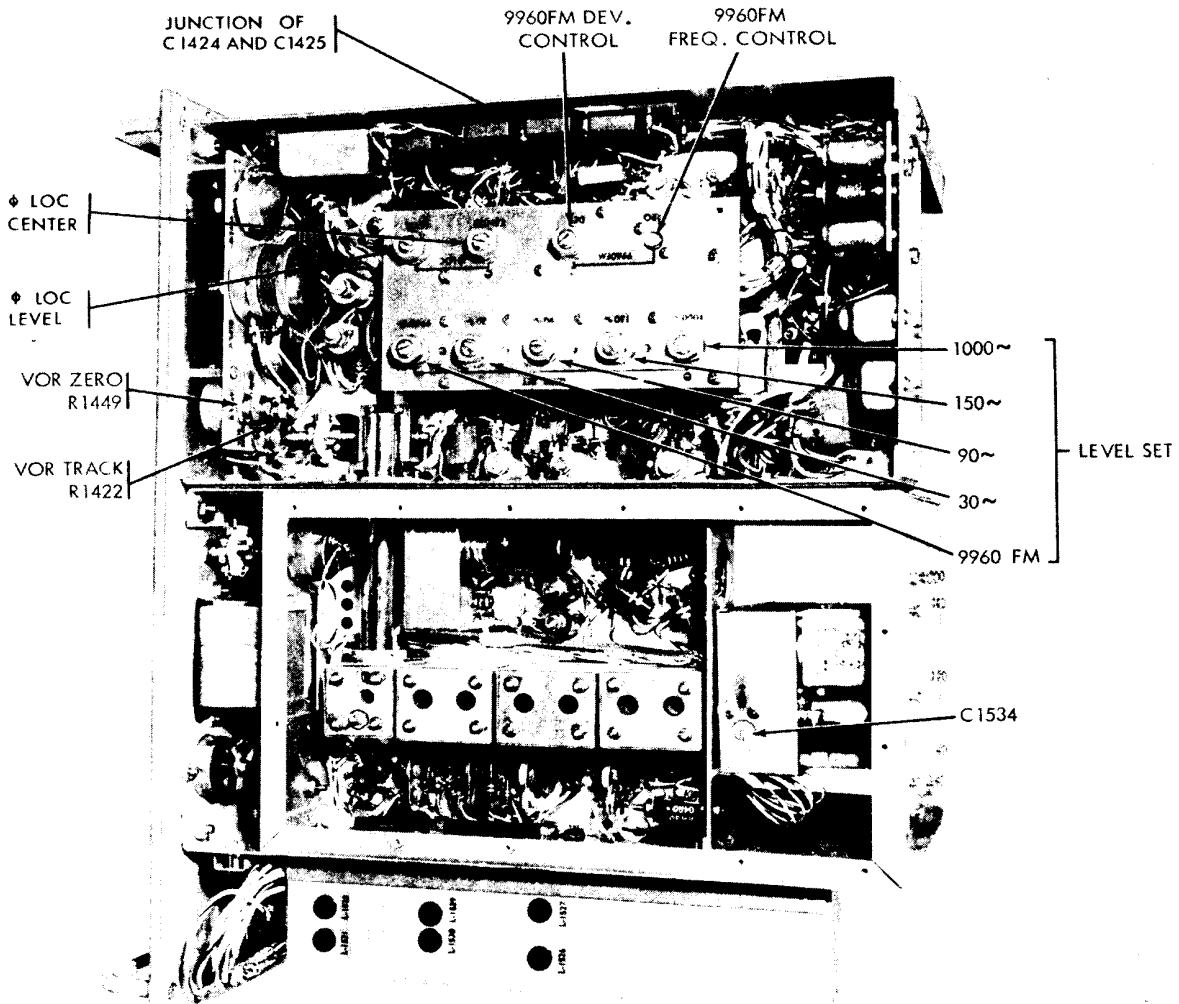

Figure 3. Test instrument - bottom interior view.
(7) Frequency counter will indicate between 331.9786 and 332.0214 MHz. If not, perform **b** below.
**b. Adjustments.** Repeat **a** above and adjust C1534 (fig. 3) for optimum within-tolerance indications.
**b. Adjustments.** Adjust LEVEL SET adjustments (fig. 3) as necessary to produce required waveforms.
- (14) Turn AUDIO SELECTOR to 150.
- (15) Repeat (13) above.
**b. Adjustments.** Adjust LEVEL SET (fig. 3) as necessary for midrange voltage obtained in (7) above.